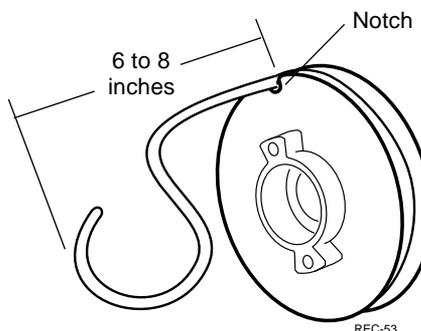

Figure 4.10 Starter Rope Installation
STEP 2. Wind the rope on the reel in the reverse order of removal, but leave the last 6-8 inches of rope exposed and hanging from the reel notch as shown in Figure 4.10.